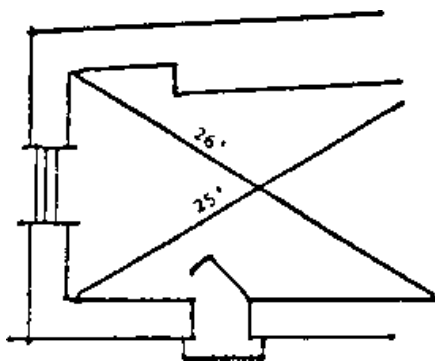
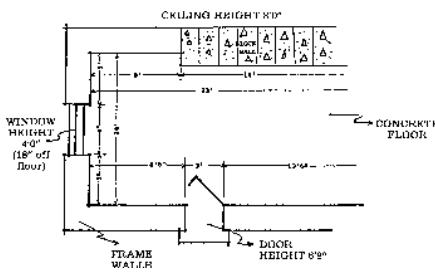

Figure 3.
Figure 4.
4. More common than many people would suspect, all structures and rooms do not have square (90-degree or right-angled) corners. These irregularities may be due to inconsistent building practices, irregular sites, or the settling of the structure. If you think that the room may not be square, check it by taking diagonal measurements. (See Figure 3.) If the measurements are not identical, record these so that as the remainder of the measurements are taken and the floorplan is drawn, the shape of the structure (or room) will accurately reflect the irregularities. (See Figure 4.)